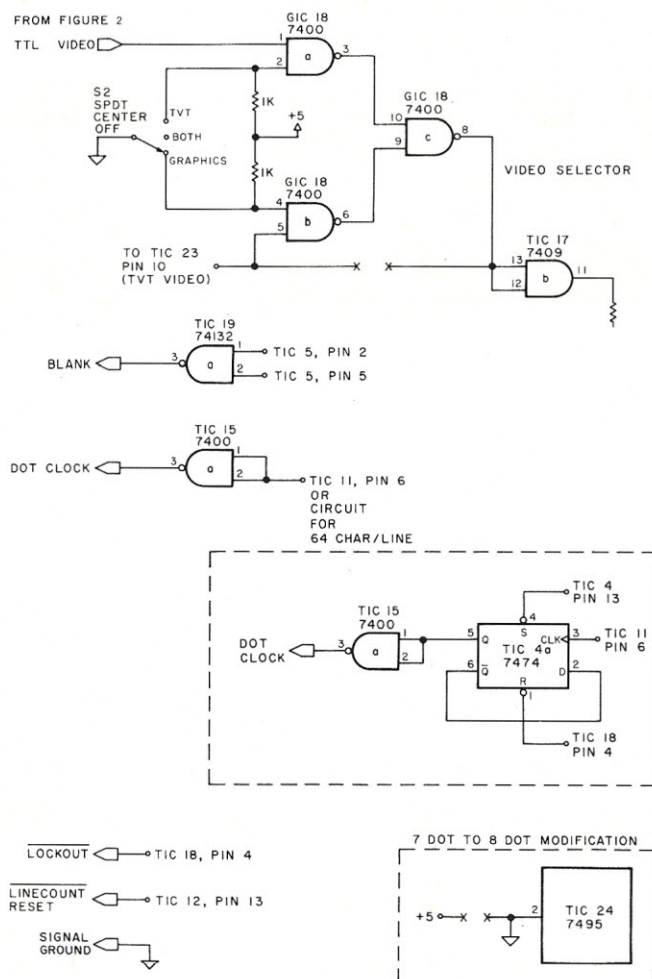

Fig. 4. TVT-II mods.
Fig. 4 shows modifications to the TVT-II. Pin 2 of TIC 24 is disconnected from +5 V and grounded to convert from seven dots per character to eight. BLANK and DOT CLOCK sig-
3. Add GIC 18 (a 7400) to the TVT board and wire it as shown in Fig. 4 to form the video selector. S2 can be mounted up to several feet away from the board for convenient selection. An easy way to mount the IC is to glue it on its back to the bottom of the PC board using a cyanoacrylate glue such as Super Glue. Connections can be made by soldering directly to the pins. Pin 1 of GIC 18 is the TTL VIDEO INPUT line.
TIC 19 as shown in Fig. 4. The output of this gate is the BLANK line.